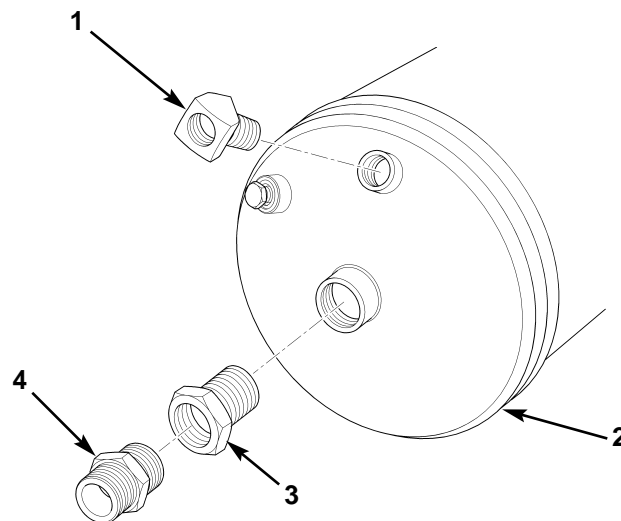

Figure 56. Removing Fittings from Primary Reservoir.
34. Remove elbow (figure 56, item 1), adapter (figure 56, item 4), and reducer bushing (figure 56, item 3) from primary reservoir (figure 56, item 2).